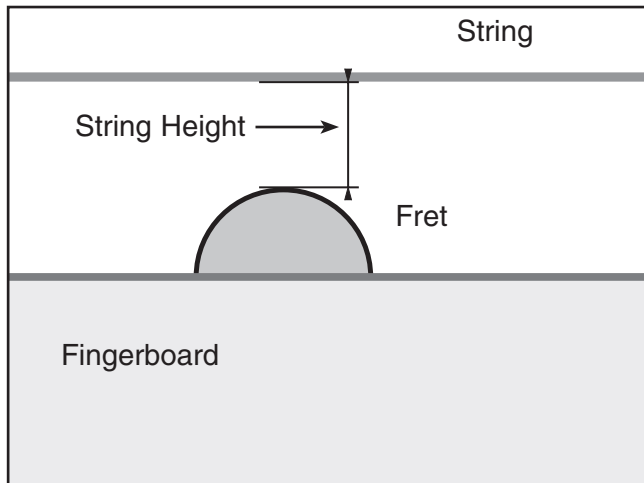

Figure 27. String height measurement.
Correct string height is crucial for maximizing the playability of your electric guitar. The string height is the distance between the top face of the fret and the bottom face of the string (**Figure 27**).
1. Place a capo on the 1st fret and measure the string height above the 17th fret as shown in **Figure 27**.